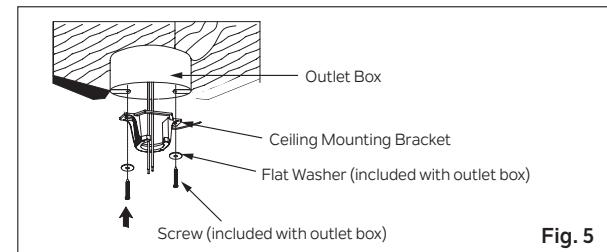

Fig. 5
Step 1. Before attaching fan to outlet box (not included), ensure the outlet box is securely fastened to at least two points to a structural ceiling member (a loose box will cause the fan to wobble). Pass the 120 volt supply wires from the ceiling outlet box through the center of the ceiling mounting bracket. Install mounting bracket to outlet box in ceiling using the screws and washers included with the outlet box. **(Fig. 5)**